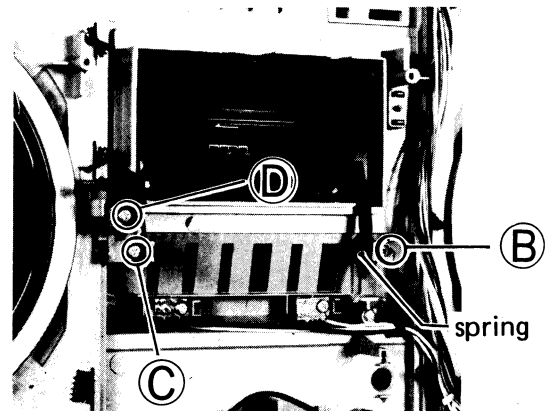

Fig.5
**2. To service cassette door (see Fig.5)**